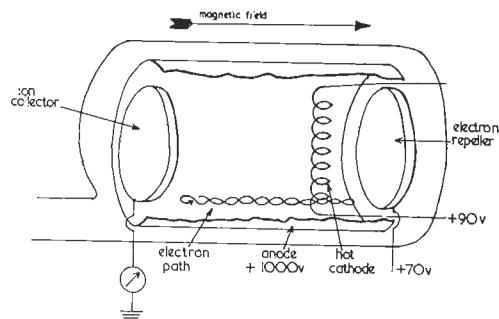

FIGURE 11
The last entry in Table 1, the hot-cathode magnetron, is essentially an ionisation gauge with a magnet around it. Although the hot-cathode magnetron has been developed intensively in the last few years by Lafferty, we describe the simpler parent gauge due to Houston.(4) The electrode structure (Figure 11) is such that electrons are trapped by the crossed electric and magnetic fields. A special case of trochoidal trajectory results(5) which is bent back on itself by the end electrodes in the manner drawn. Electrons travel as much as  $10^8$  cm before reaching the anode. The ions formed travel directly